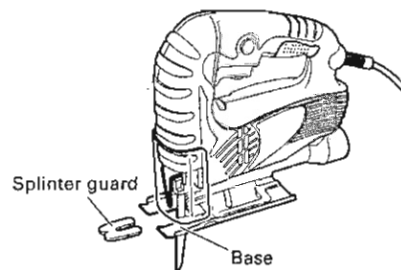

Fig. 7
- (2) Use the splinter guard to reduce roughness of the cutting surface of wooden materials. Attach the splinter guard by inserting it from the front section of the base until it clicks into place. (Fig. 7)